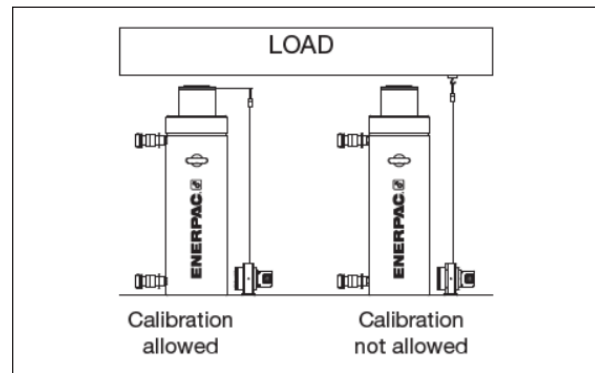

Figure 17: Calibration conditions
- Cylinder Calibration Selection: The user must set if the calibration is going to be carried out or not, depending on how the stroke sensor is placed. Refer to Figure 17 for further detail.